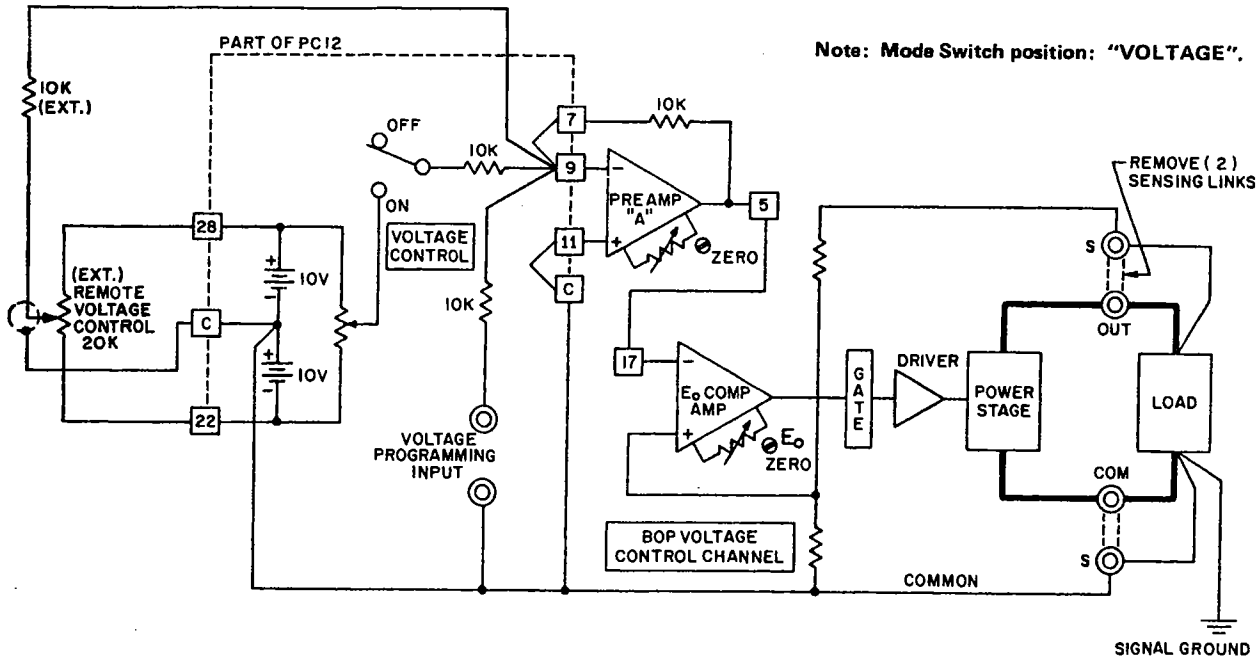

FIG. 3-4 REMOTE POTENTIOMETER CONTROL OF THE BOP D-C OUTPUT VOLTAGE
**3-11 REMOTE D-C OUTPUT VOLTAGE CONTROL BY RESISTANCE.** As seen in FIG. 3-4, and as described in a previous paragraph (Paragraph 3-6) the BOP d-c output potential can be controlled within its specified range by means of the VOLTAGE CONTROL, with the VOLTAGE CONTROL SWITCH in the ON position. PREAMP "A" with the built-in feedback and input resistors, has a gain of one and the fixed gain of all BOP models is designed so that a d-c input signal of zero to ( $\pm$ )10 volt will control the BOP output through its specified range. In the local (front panel) control mode, the d-c control potential is applied via the VOLTAGE CONTROL. In the remote control mode, a similar control circuit, located external to the BOP is substituted for the internal control elements.
3-12 As shown in FIG. 3-4, this control method can readily be performed remotely, by setting the VOLTAGE CONTROL SWITCH to the OFF position and connecting an external REMOTE VOLTAGE CONTROL as indicated in FIG. 3-4.